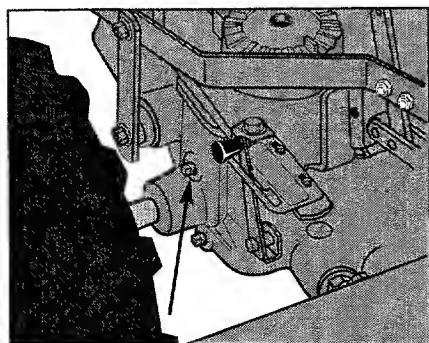

Figure 5-7: Remove oil level check plug. Gear oil should seep out if the level is sufficient.
2. Use a 3/8" wrench to remove the oil level check plug on the left side of the transmission housing (refer to Figure 5-7).
left side of the transmission (Figure 5-7).
- Remove the oil level check plug (see Figure 5-7) with a 3/8" wrench. This vents the transmission for faster oil draining.